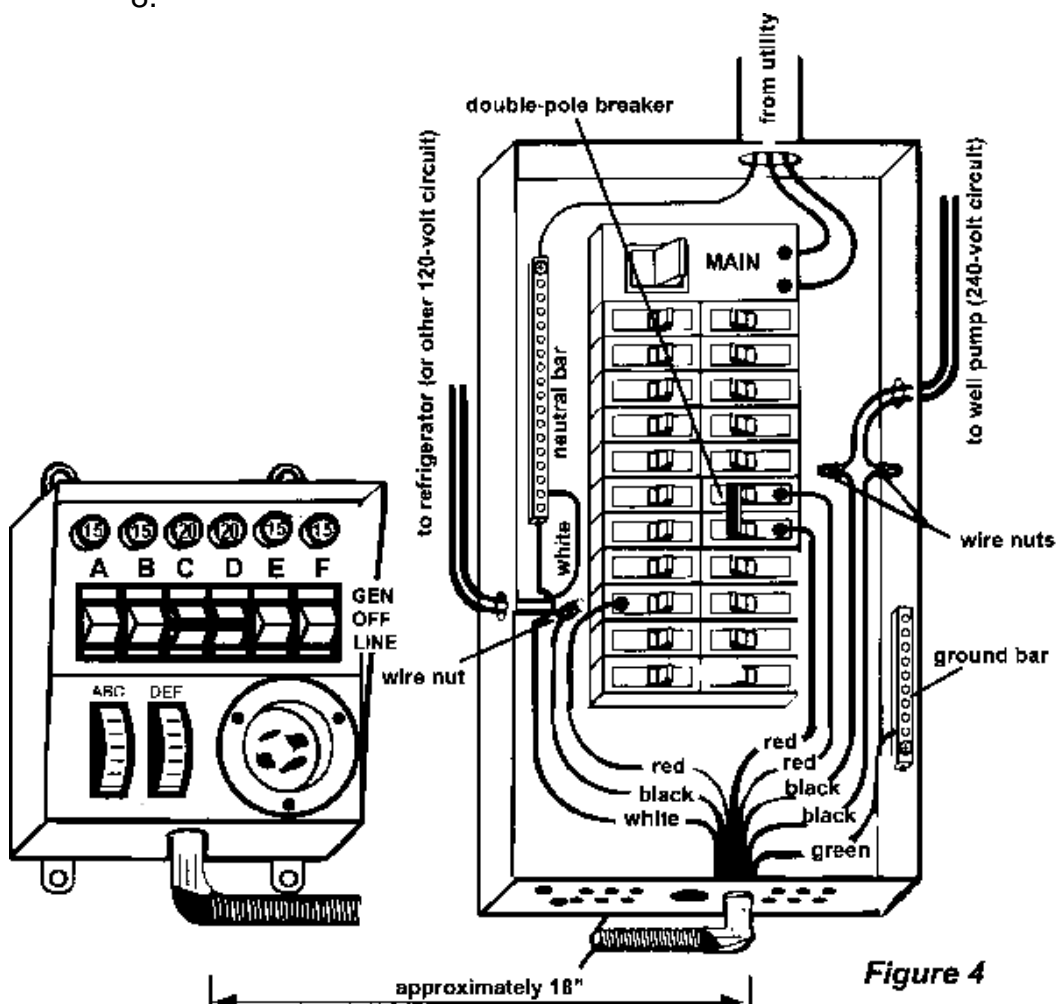

Figure 4
1. Insert the white neutral wire into an unused opening in the neutral bar in the load center and tighten the screw (*Figure 4*).